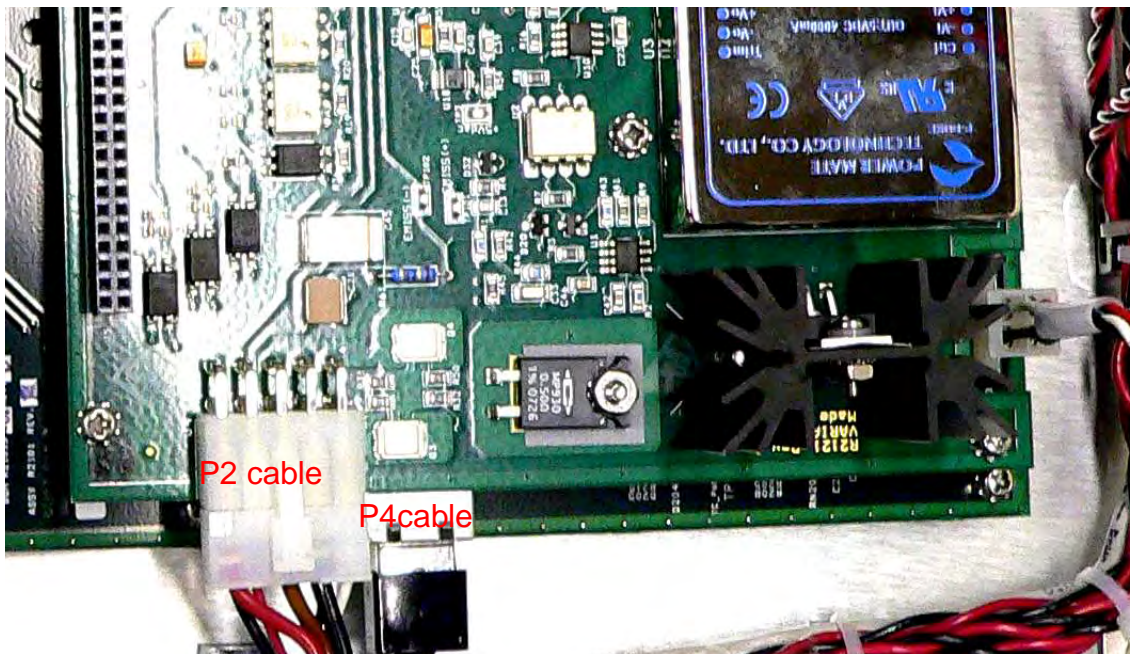

Figure B-32 Connections
4. Remove the following connections (Figure B-32):
- Reinstall the following connections (Figure B-32 on page B-22):
- Reinstall the five (5) Philips head screws and washers.